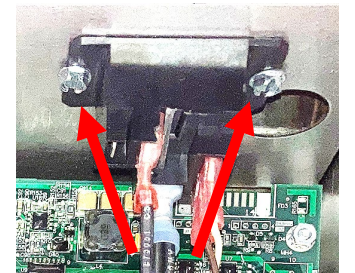

Figure 25
- Remove the two (2) screws attaching the relay(s) to the top of the component box (see Figure 25). Relays in electric fryers may differ in appearance.